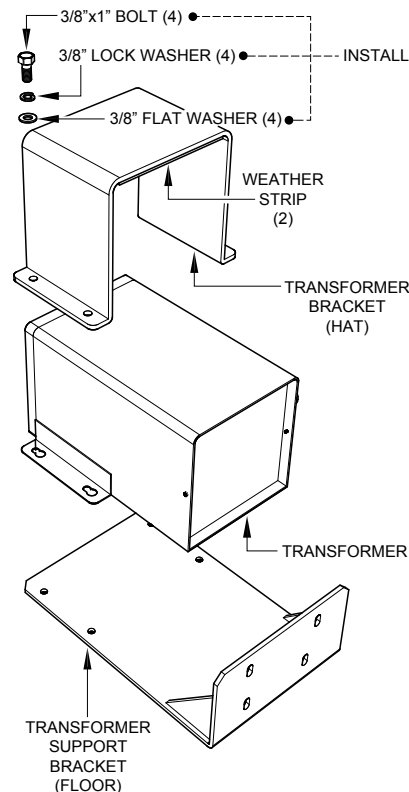

Figure 4. Installing Transformer Mounting Brackets (Hat/Floor)
1. Align transformer bracket (hat) with transformer mounting ears along with transformer support bracket (floor) as shown in Figure 4.
2. Secure both brackets (Figure 4) to transformer using a 3/8" x 1" bolt (4), 3/8" lock washer (4), and 3/8" flat washer.